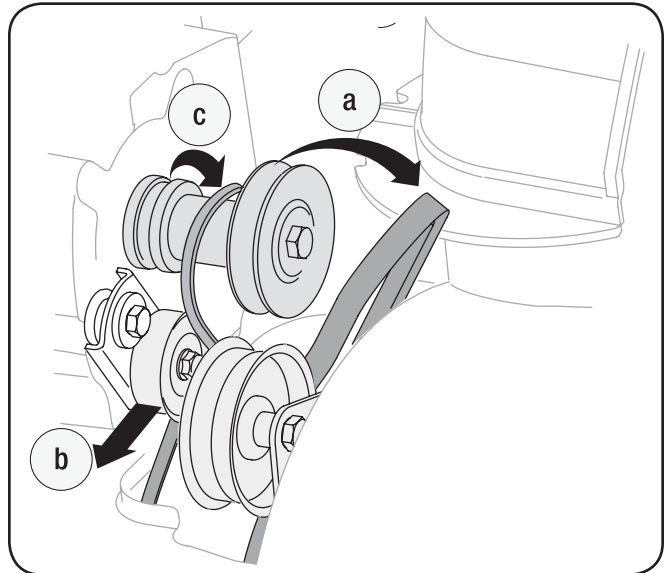

**Fig. 7-6**
3. Remove the belt as follows. See Fig. 7-6: